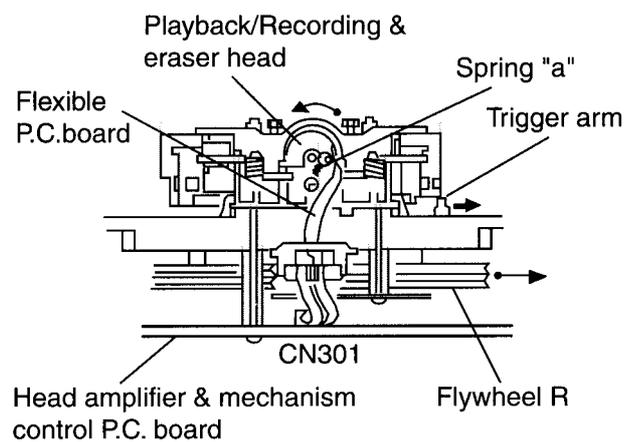
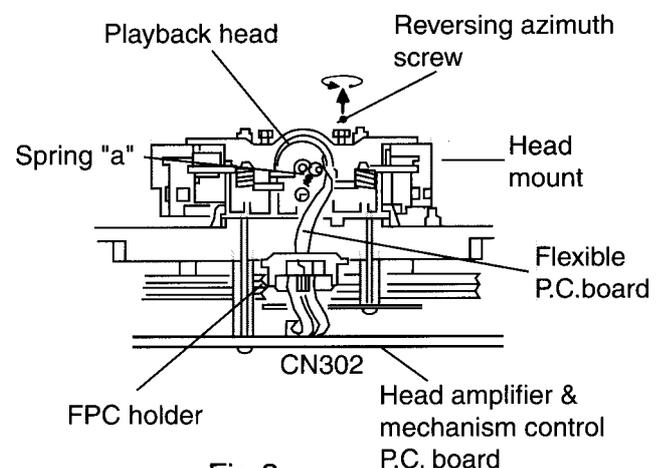

Fig.2 (Mechanism A side)
Fig.3 (Mechanism B side)
2. When the flywheel R is rotated in counterclockwise direction, the playback head will be turned in counterclockwise direction from the position in Fig.2 to that in Fig.3.
● **Reassembling the playback, recording and eraser heads (See Fig.2,3)**
1. Reassemble the playback head from the front of the head mount to the position as shown in Fig.3.
4. Attach the flexible P.C.board to the chassis base, and fix it with the FPC holder as shown in Fig.3.